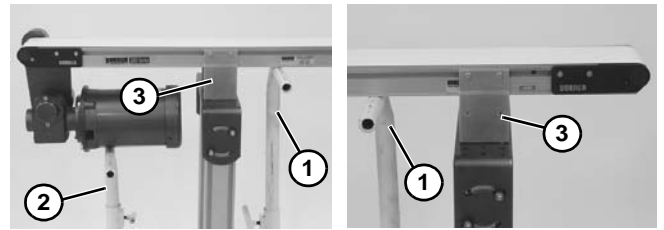

Figure 28
1. Place temporary support stands (**Figure 28, item 1**) at both ends of the conveyor. Place an additional support stand (**Figure 28, item 2**) under the drive motor, if equipped. See WARNING.
2. Remove mounting brackets (**Figure 28, item 3**) from one side of conveyor. (Reverse steps 3 & 4 of "Mounting Brackets" section beginning on page 12.)